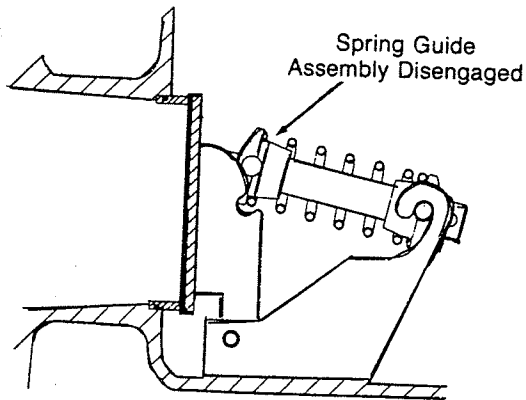

Fig. 2
4. Compress the spring guide assembly slightly so it will pop free from the notches on the disc assembly and rest as shown in Fig. 2.